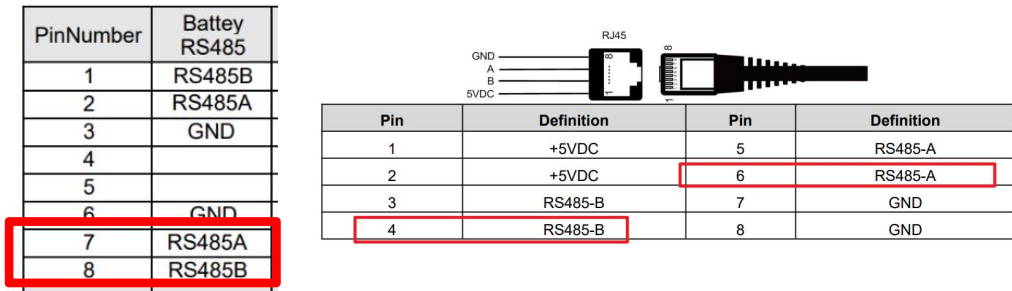

Figure 2
2. Use customized communication cable whose pin sequence is **7A8B to 6A4B (Battery to Inverter)** as shown in Figure2.